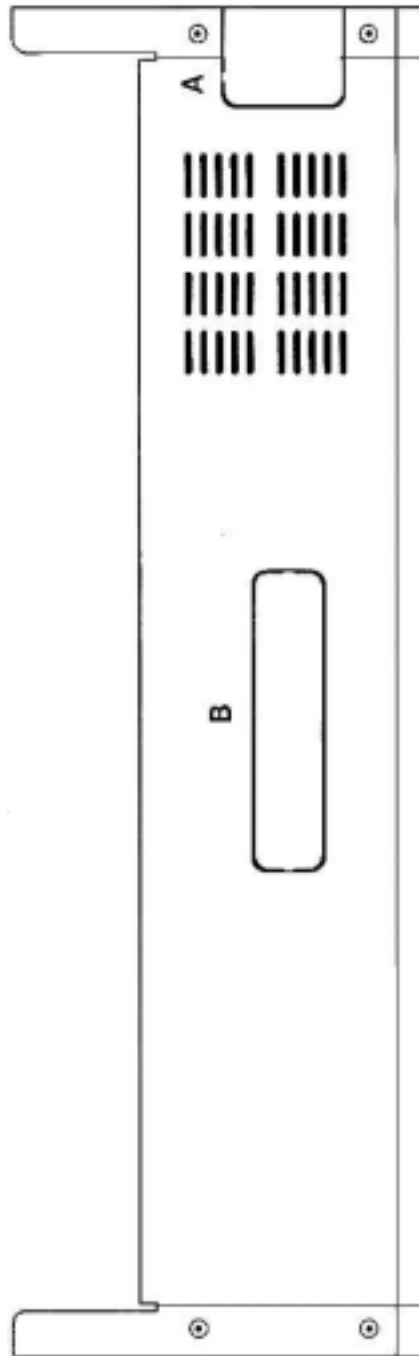

Figure 3-2 Knock Outs For Expansion Cabinet Installation
4. Remove the dummy tabs on the right side of the KSU with the appropriate tools to allow for connections between the KSU and the Expansion Cabinet. Hole A is for the tail cable and hole B is for the signal and power cables. (see Fig 3.2)